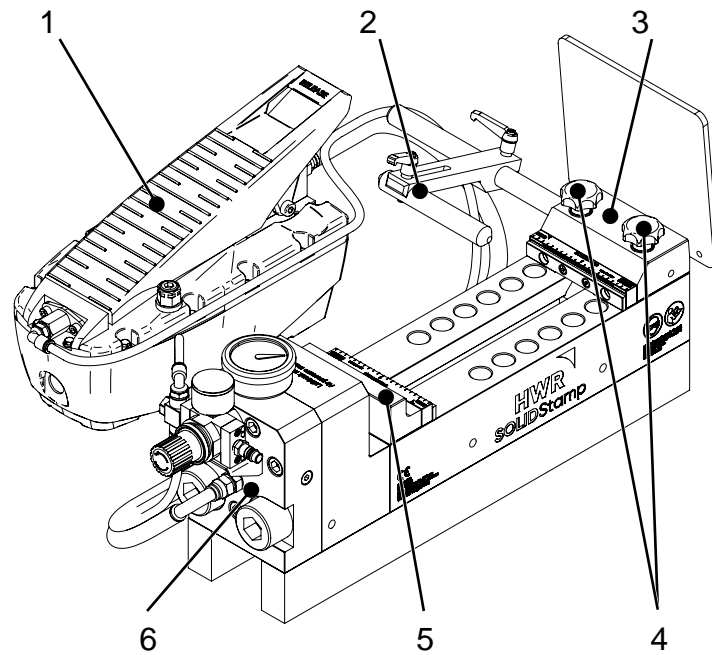

Fig. 8-1: Division of the stamping station
| Step 1 | Refer to figures 8-1 through 8-5 to identify the desired spare part.       |
- Step 1** Refer to figures 8-1 through 8-5 to identify the desired spare part.